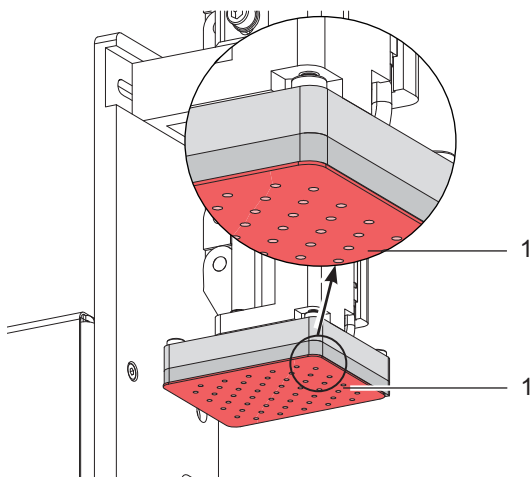

Fig. 6 Pad with slide foil
Pull tubes (1) at pneumatic connectors only if the releasing ring (2) pressed. (Figure 6 right).